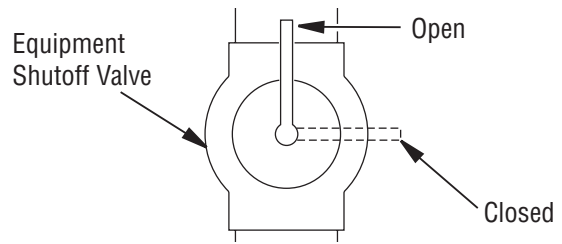

Figure 13 - Equipment Shutoff Valve
1. Close equipment shutoff valve (*see Figure 13*).
1. Open equipment shutoff valve (*see Figure 13*).